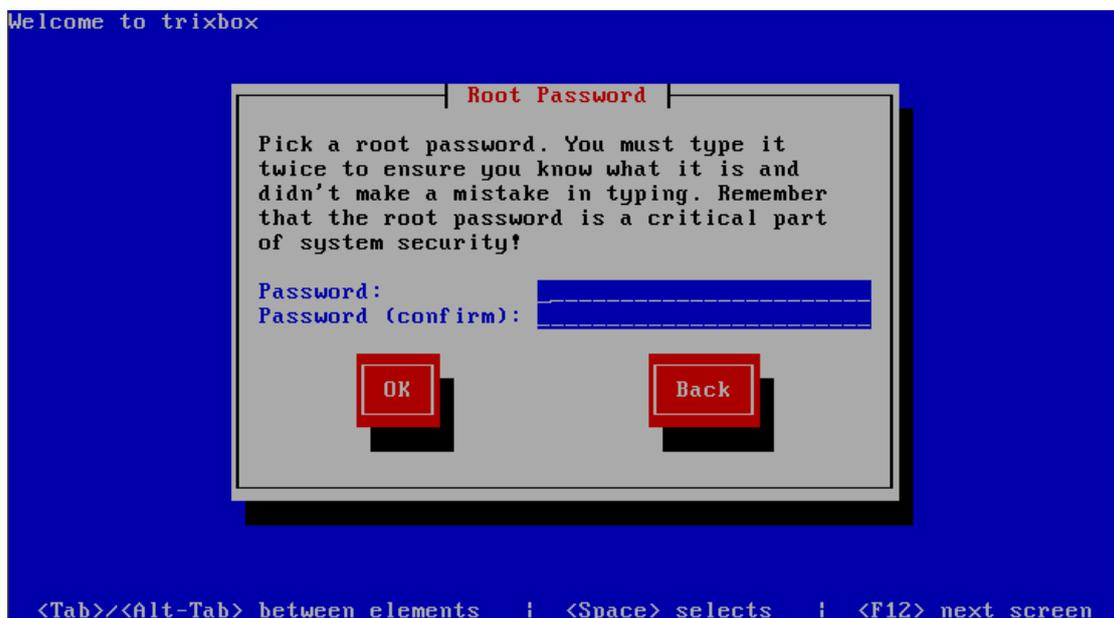

Figure 4
- d) Next, enter the root password as shown in Figure 4.